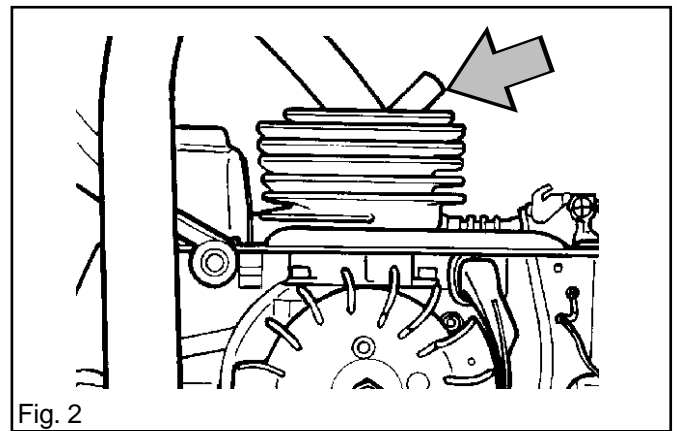

Fig. 2
6. Remove the spark plug and fit the piston stop tool in the spark plug hole. See fig. 2.